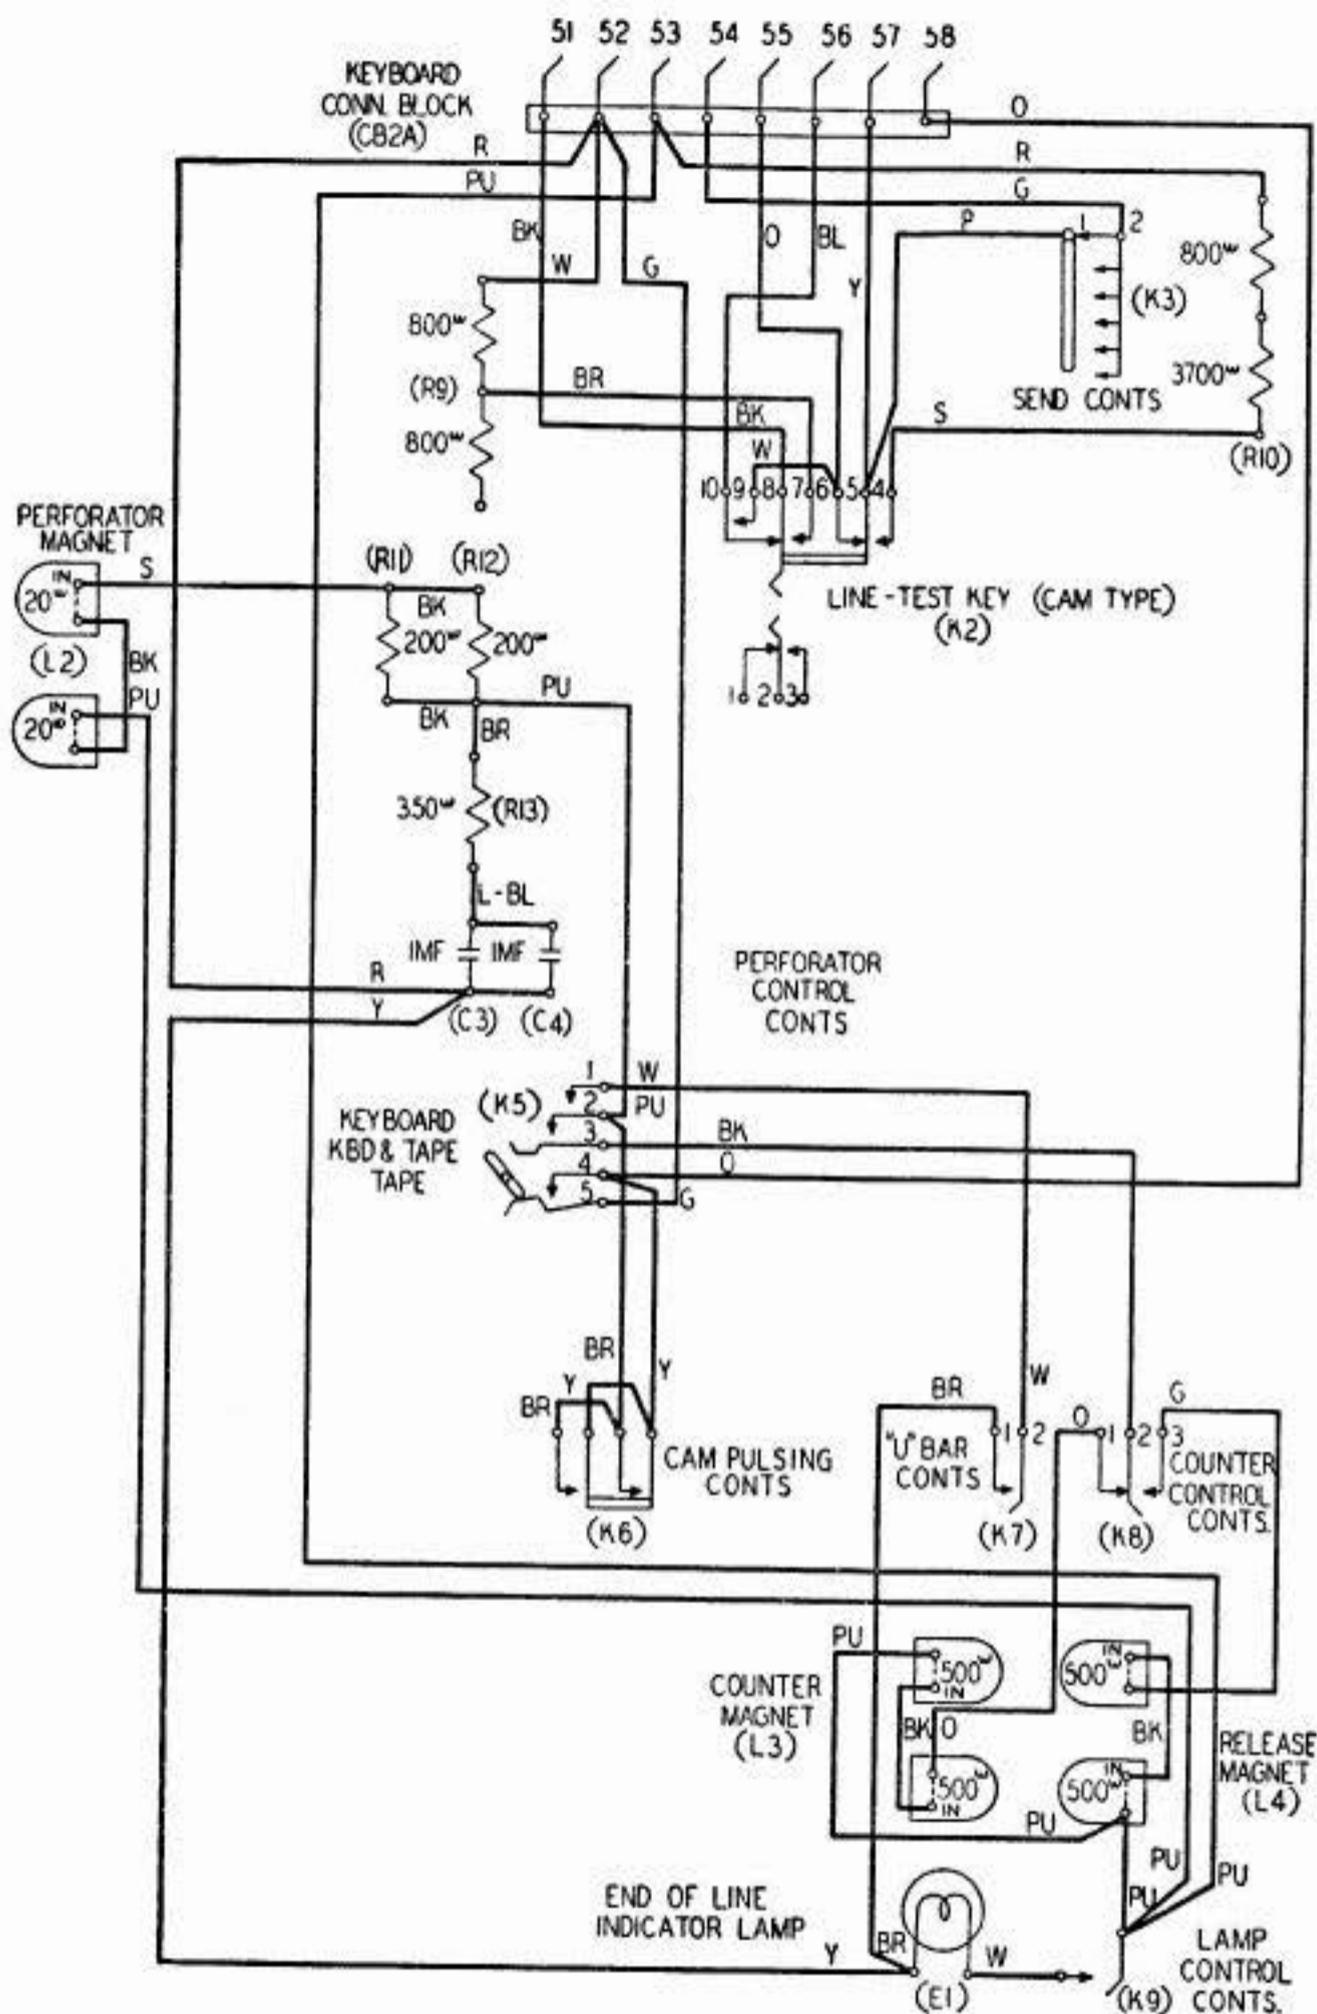

Fig. 4—No. 15 Perforator-Transmitter with End-of-Line Indicator on Left—Cam Type Line-Test Key
1.01 This section covers the wiring of No. 15 type perforator-transmitters as they are furnished from the factory. It is reissued to add Fig. 4.